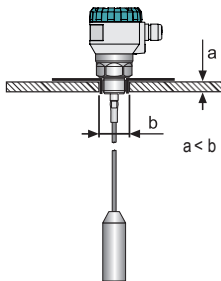

Fig. 8: Level meter installation on the roof of the concrete silo
- When installing the level meter into the roof of a concrete silo, the level meter installation hole b must be larger than the thickness of the concrete a, see fig. 8.